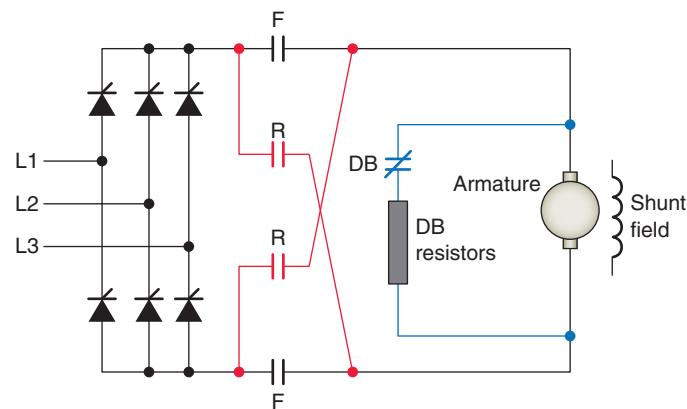

Figure 10-44 Nonregenerative DC drive with external dynamic braking and reversing contactors.
- In applications where supplemental quick braking and/or motor reversing is required, dynamic braking and forward and reverse circuitry, such as shown in Figure 10-44, may be provided by external means.
- Dynamic braking (DB) requires the addition of a DB contactor and DB resistors that dissipate the braking energy as heat.